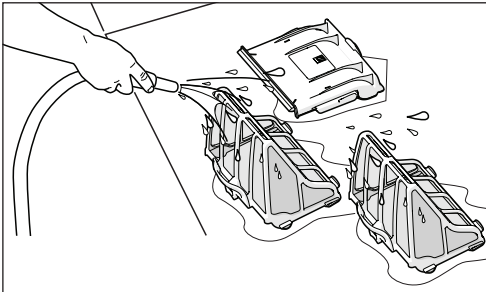

Figure 15. Wash Filter Canister
8. Empty all debris from the filter canister, then rinse the canister, the filter support and the cleaner using a hose. See Figure 15.